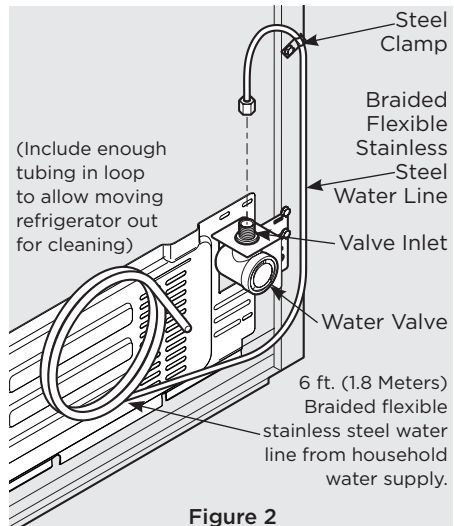

Figure 2
- If you use braided flexible stainless steel tubing - The nut is already assembled on the tubing. Slide nut onto valve inlet and finger tighten nut onto valve. Tighten another half turn with a wrench; DO NOT over tighten. See Figure 2.